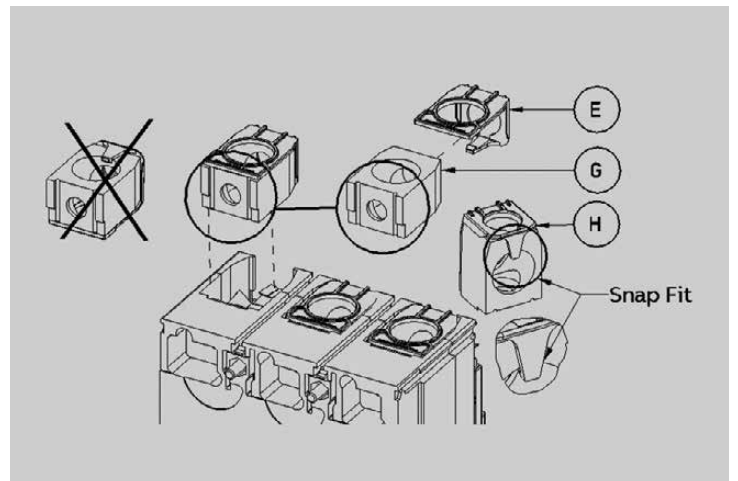

Figure 5: Item H Assembly Process
Step 4: Assemble Item E on Item G to form sub assembly Item H. Ensure the Item E assembled as per Figure 5.